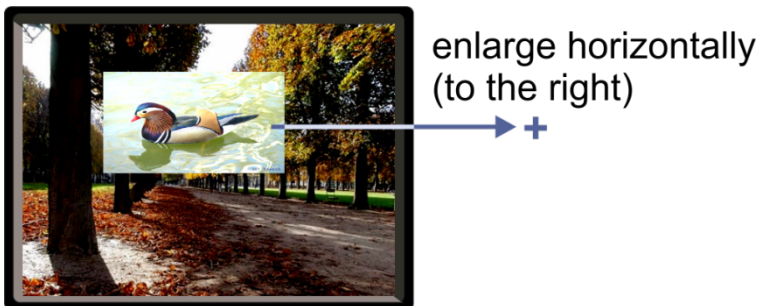

Figure 8: Increasing the Width
3. Select H width (an OSD slide bar appears) and press + to increase the width, or – to decrease the width, see Figure 8.